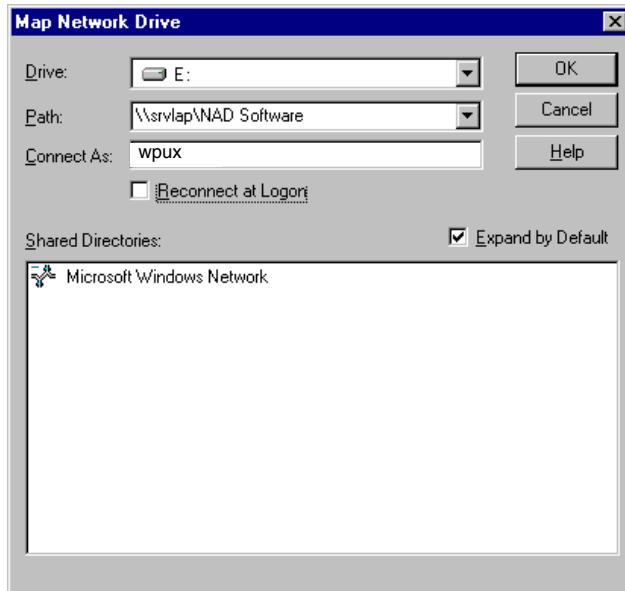

FIGURE 25. Example: Map Network Drive Dialog
- 8.44 Touch the 'Connect As' field to move the cursor to this field. Then use the keyboard connected to the NM6000 to enter 'wpx'. See Figure 25.